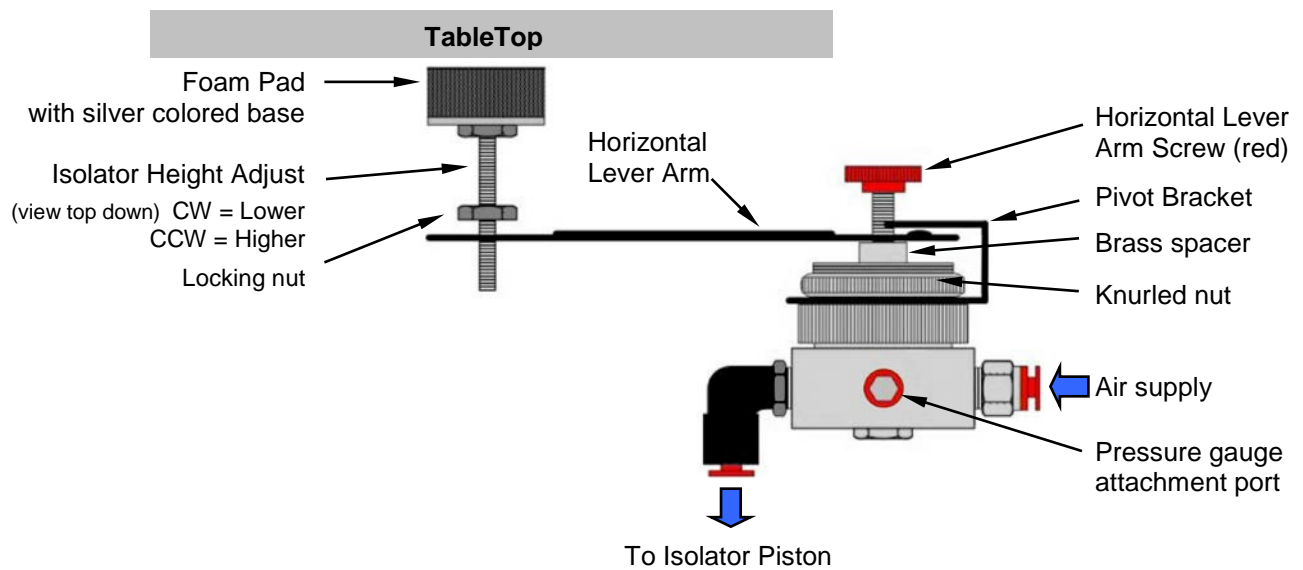

Figure 7, *Height Control Valve*
- Step 17** Tighten *locking nut* on **ISOLATOR HEIGHT ADJUST** for all three valves as shown in figure 7 above, *Height Control Valve*.